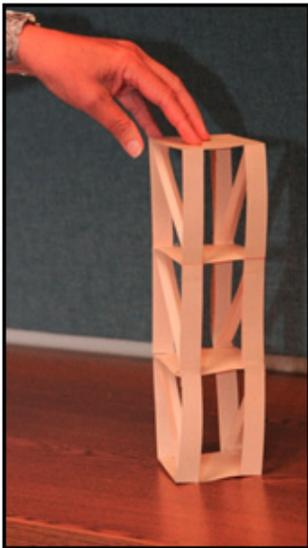

Figure 1. A completed lightweight poster board model building.
Simple, rectangular building designs are effective (Figure 1). Many design options, particularly for the bracing, are possible.
- Buildings are tested on the horizontal motion shake table (Figure 1). Tape the base of the building to the base plate of the shake table. Choose the direction in which you wish to orient the building.